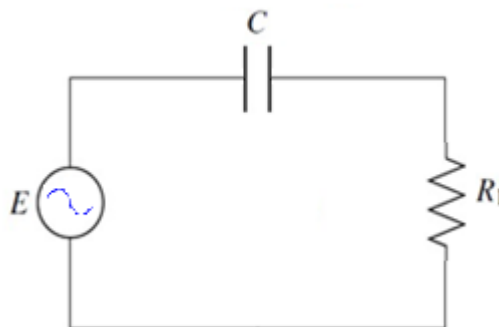

Figure 9.7: Circuit Diagram of Passive High Pass Filter
1. Build the passive high-pass filter circuit shown in Figure 9.7, using the breadboard and the specified components. ($R = 10K\Omega$, and $C = 10nF$.)